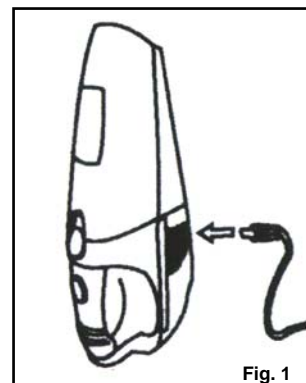

Fig. 1
**Note:** Peak performance may only be realized after the unit has been charged and discharged two (2) or three (3) times.
4. The charging indicator light will shine green to indicate that the vacuum cleaner being charged. (Fig. 1)